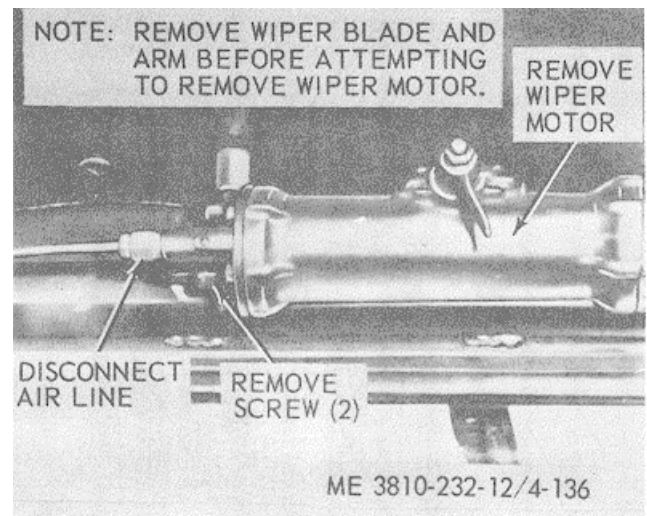

Figure 4-136. Windshield wiper motor, and installation.
(1) Remove windshield wiper motor as illustrated in figure 4-136.
(2) Install motor as illustrated in figure 4-136.